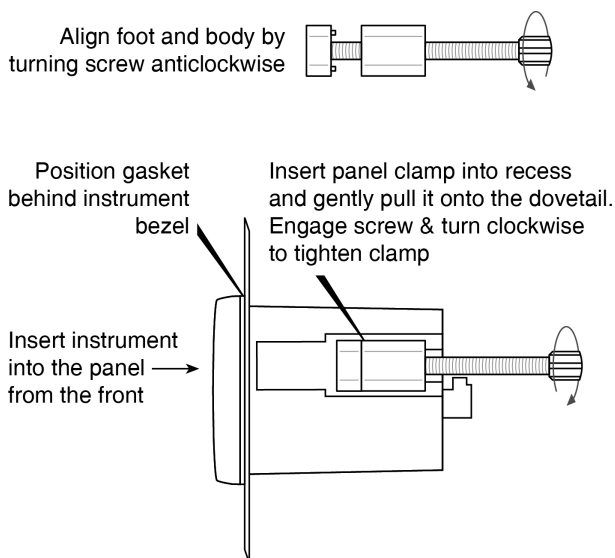

Fig 7 Fitting panel mounting clamps
- Place a clamp in the recess on each side of the Counter, pulling gently to slide it onto the dovetail as shown in Fig 7. Push the knurled screw slightly forward to engage the thread and tighten by turning clockwise until it is just finger tight. When both clamps are fitted ensure that the gasket behind the front panel bezel is correctly positioned before fully tightening the clamps to secure the instrument. The maximum recommended clamp tightening torque is 22cNm (1.95 lbf in) which is approximately equivalent to finger-tight plus one half turn. **Do not over tighten.**